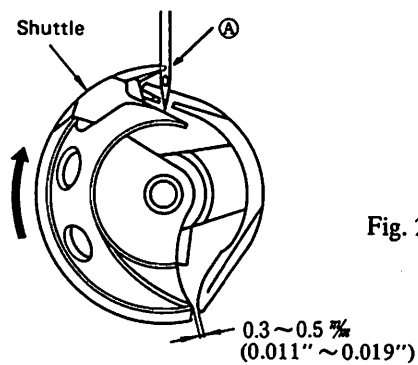

Fig. 29
When the state is as described in the above 1), the center of the needle coincides with the point of the shuttle at A. (Fig. 29)
<p>1) Referring to Standard Adjustment (1) Height of the needle bar, make the lower marker line engraved on the needle bar flush with the bottom end of the bushing.</p> <p>2) and 3) Loosen setscrew ① of the shuttle driver, and adjust the rotational and longitudinal directions of the shuttle driver.</p> <p>(Caution) Ensure to turn the shuttle in the arrowed direction as shown in Fig. 29 when adjusting the timing of the shuttle.</p> <p>4) Loosen setscrew ④ of the shuttle race, and turn eccentric shaft ③ to make adjustment.</p> <p>5) Loosen setscrew ④ to perform adjustment. Enough care should be exercised when performing the adjustment described in 4), namely the adjustment of the clearance between the needle and the point of the shuttle.</p> <p>(Note) The clearance in the rotational direction between the shuttle and the shuttle driver should be 0.3 mm to 0.5 mm (0.011"~0.019") as shown in Fig. 29. Strike points C or D for adjustment. After adjustment, check that point C is evenly spaced vertically with respect to the shuttle.</p> <div data-bbox="408 1086 723 1388" data-label="Image"> <p>The diagram shows a top-down view of a shuttle mechanism. It consists of a central circular hub with a smaller inner circle. Surrounding this is a larger circular component with several curved segments. Two specific points are marked with circled letters: 'C' is located at the top of the outer ring, and 'D' is located on the right side of the outer ring. Arrows point from these labels to their respective locations on the diagram.</p> </div> <p>Fig. 33</p>	<p>1) and 2) Slightly reduce the height of the needle bar (upper marker line) for floppy material, and on the contrary, slightly increase the height for heavy-weight material to adjust the timing of the shuttle. (For prevention of stitch skipping)</p> <p>3) If the clearance is more than 0 mm, the needle will be bent in the direction of the shuttle point, causing scratches on the shuttle point and the needle. On the contrary, however, excessive contact between the needle and the shuttle driver may cause stitch skipping.</p> <p>4) If the clearance is greater than 0.05 to 0.1 mm (0.001 ~ 0.003"), stitch skipping will occur. If it is smaller than the specified values, the needle strikes the shuttle point and scratches occur, leading to thread breakage or fine splits of thread.</p> <p>5) If the clearance is smaller than 7.5 mm (19/64") the needle thread will not be fully spread, often causing the needle thread to bite into the shuttle.</p> <ul style="list-style-type: none"> • If the clearance between the shuttle drive and the shuttle is greater than 0.3 to 0.5 mm (0.011" ~ 0.019"), the shuttle noise will be louder. On the contrary, if the clearance is not enough, poorly tensed stitches will result when sewing with a thick thread.